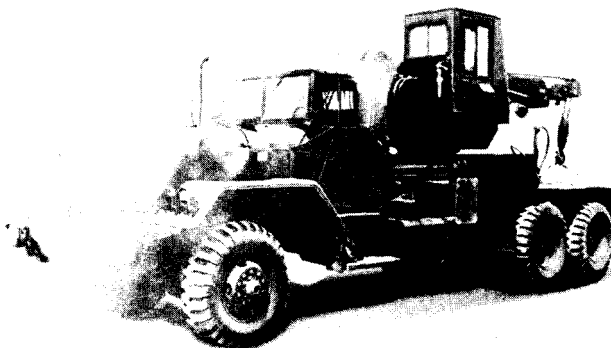

Figure 2-8. Truck, tractor, wrecker, 5-ton, 6x6, M819.
h. Truck, Tractor, Wrecker, M819 (Fig 2-8). This truck has a 215-inch wheel base, with a 20,000-pound-capacity hydraulically operated crane and a n-foot 6-inch to 28-foot boom. It has a 33-inch universal fifth wheel and approach and deck plates mounted on the rear of the chassis.